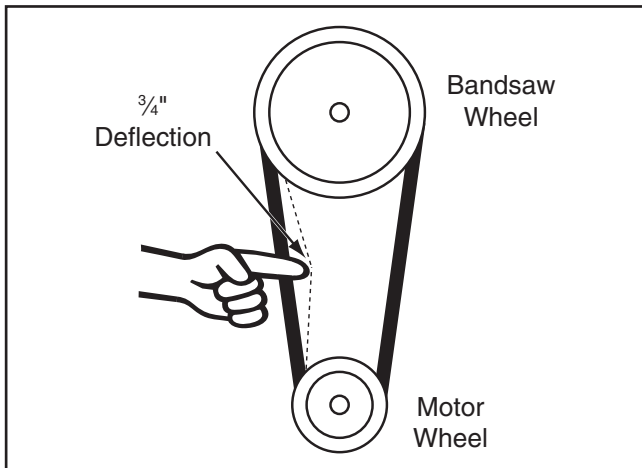

Figure 91. V-belt deflection.
4. Check the V-belt tension by applying moderate pressure between the pulleys (see **Figure 91**). If deflection is not approximately $\frac{3}{4}$ ", re-tension the V-belt following the same steps you normally use when changing blade speeds (refer to **Blade Speed** on **Page 52** if necessary).